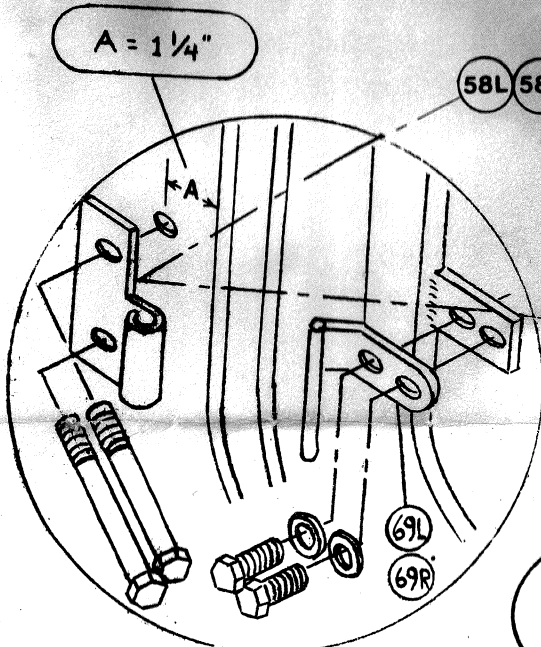

FIG. 5
13. Install the door hinges (No. 60L & 60R) using the 1/4" x 1 1/2" bolts. (See fig. 5.) Measure 1 1/4" forward from door opening. Bolt pivots (No. 69L & 69R) to OUTSIDE of doors. Leave bolts loose in order to adjust doors.